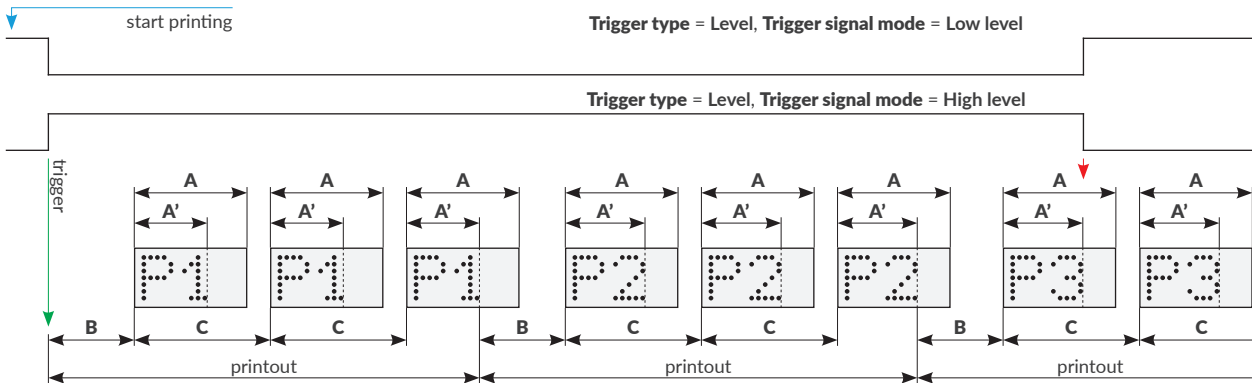
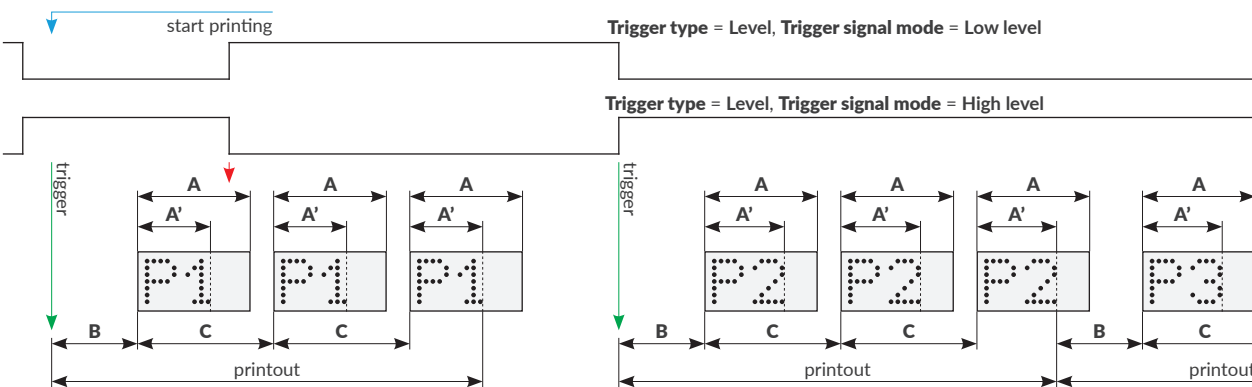
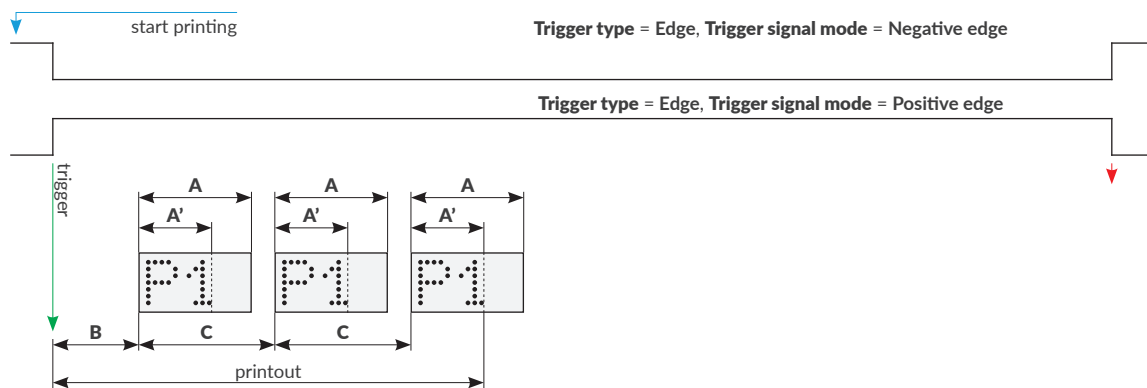
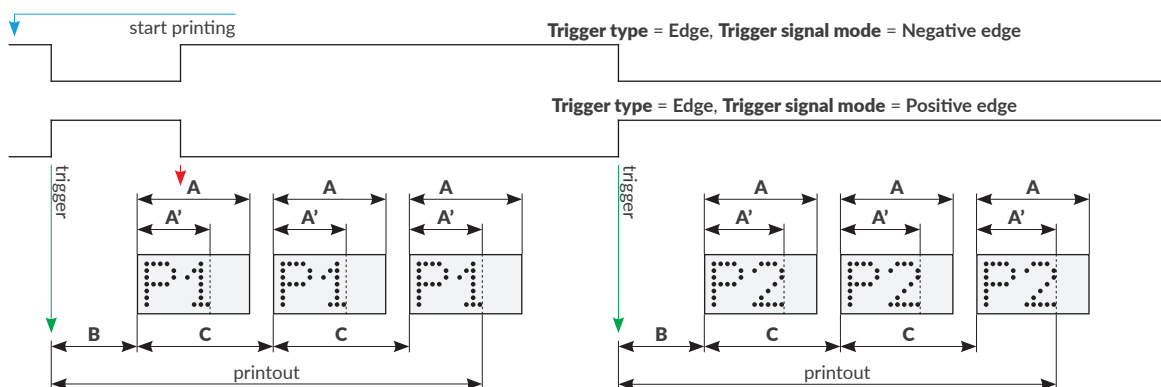

Fig. 55.
Fig. 56.
Fig. 57.
Fig. 58.
- **Edge:** when the active edge of the trigger signal occurs, the printer makes one printout consisting of a defined number of reprints (the project parameter  ▶ **Printout repetition**), and then awaits the re-occurrence of the active edge of the trigger signal to make another printout; the mode is dedicated to printing one printout on every object. For examples see Fig. 57 on page 94 and Fig. 58 on page 94.
For examples see Fig. 55 on page 93 and Fig. 56 on page 93.
For examples see Fig. 57 on page 94 and Fig. 58 on page 94.
3 - in Fig. 55 through Fig. 58,
Fig. 55 and Fig. 56 show the configuration in which:
When the beginning of an object is detected, that is when the active edge of the trigger signal occurs (or if the active level of the trigger signal exists while printing starts - see Fig. 56), the printer starts making consecutive printouts consisting of initial distance **B** and three repetitions **Px** and it continues making the printouts as long as the object being labeled is within reach of the photodetector selected as the source of the trigger signal.
Fig. 57 and Fig. 58 show the configuration in which: